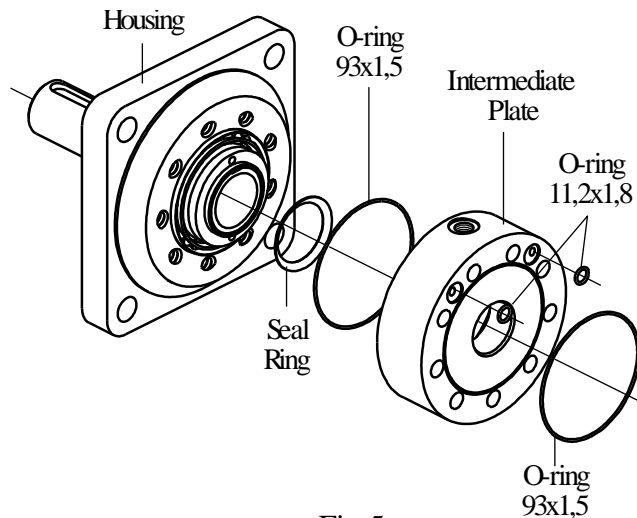

Fig.5
11. Separate Intermediate Plate from housing. Remove from plate's grooves O-ring 93x1,5 (2 psc.) and O-ring 11,2x1,8 (2 psc.). Remove Seal Ring from Intermediate Plate. (see Fig.5).
5. Lubricate O-rings 93x1, 5 (2 psc.) and place them in seal grooves of both sides of Intermediate Plate. (see Fig.5).
Lubricate O-rings 93x1,5 (2 psc.) and place them in seal grooves of both sides of Channel Plate. (see Fig.5).